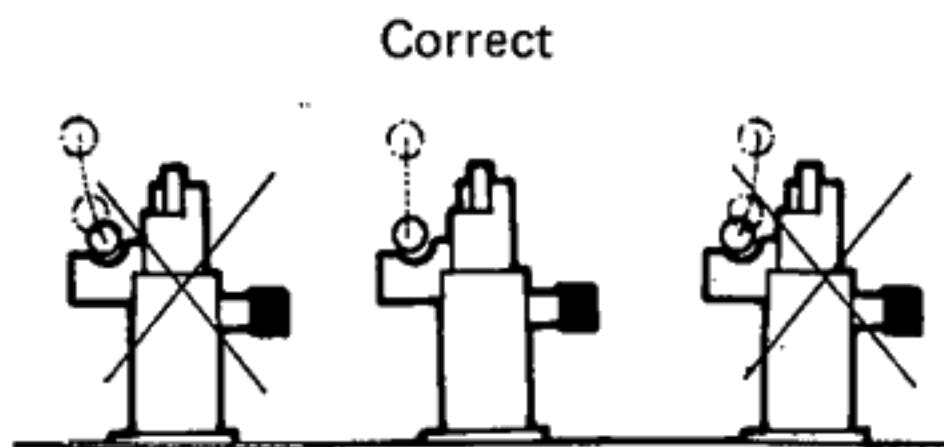

Fig. 11
- * When returning the tonearm to the arm rest, if the arm does not set properly into the notch in the arm rest (hits either the right or left side of the arm rest during descent), perform the following adjustments. See Fig. 11 below: